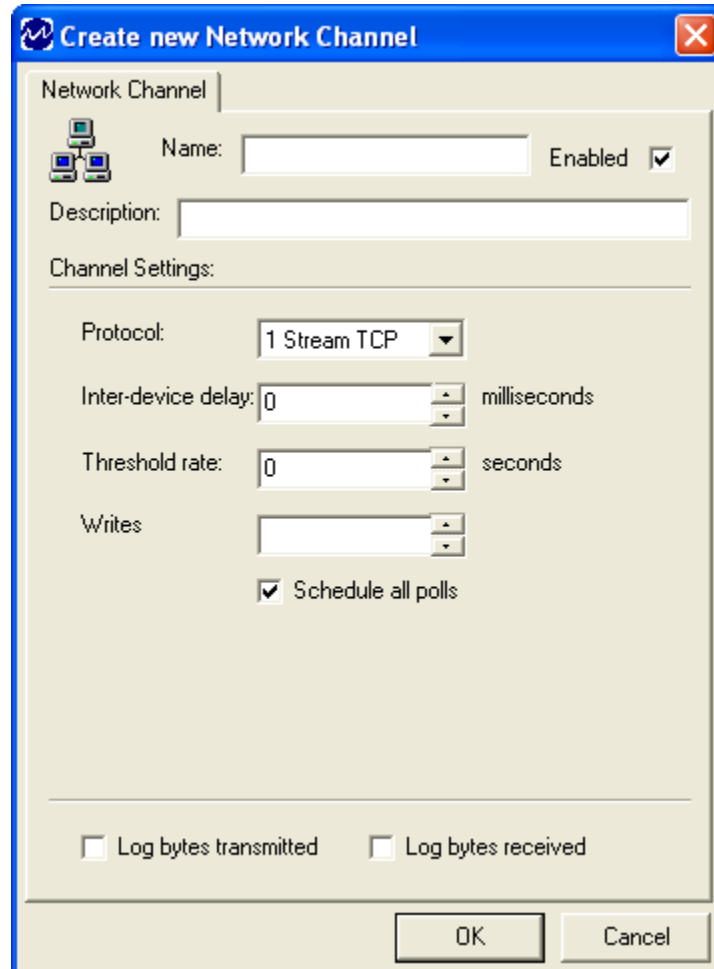

Figure 24 - Create New Network Channel Window
The **Create New Network Channel** window (Figure 24) displays the settings available for configuring a **Network Channel**.
5. The **Create New** window appears (Figure 24).